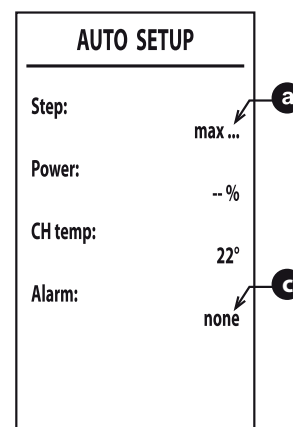

fig. 45 -
6. After ignition, the burner is positioned at the various powers (max, med, min) indicated by the point ("fig. 45 -").
8. If the ignition sequence described in point "6" is not successful, the message max_err will appear at point and an error code at point ("fig. 45 -").